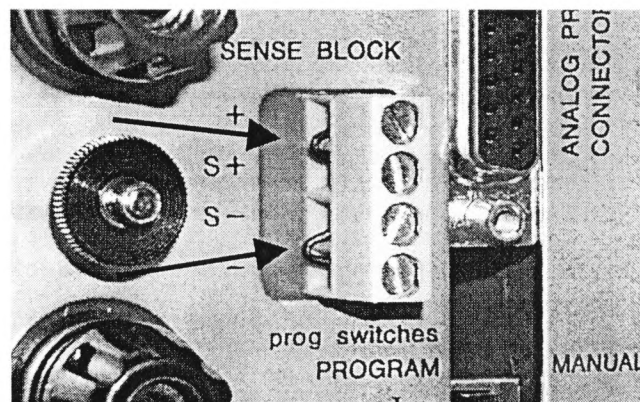

fig. 3 - 20 for normal operation links should be connected between S+ and + and between S- and -
- Check connections on **SENSE BLOCK** (on rear panel). For normal operation there should be a link between + and S+ and between - and S-. See also fig. 3 - 20. When remote sensing is used, check the wires of the sensing.